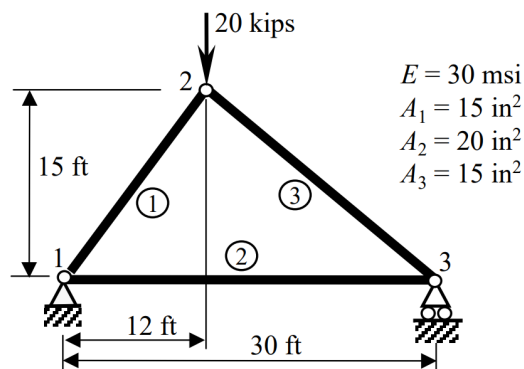
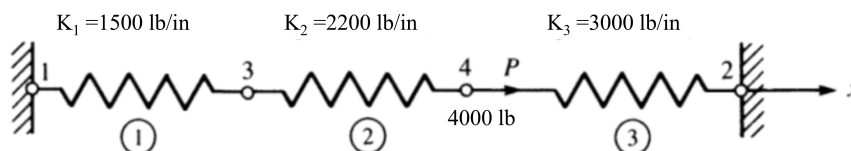

Figure 1:
Figure 2:
1. For the plane truss structures shown in Figure 1. Find (a) the local element matrices, (b) the global element matrices, and (c) unknown displacements and forces.
2. For the system of springs, arbitrarily numbered nodes are shown in Figure 2. Obtain (a) the global stiffness matrix, (b) the nodal displacements, and (c) the reaction forces at nodes 1 and 2. A force of 4000 lb is applied at node 4 in the  $x$  direction. (Follow the node numbering as given in Figure 1)